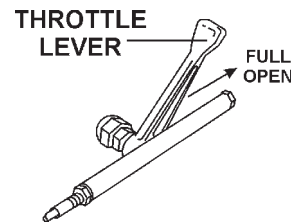

Figure 9. Throttle Lever (Full Open)
5. Grip the recoil starter (Figure 9) handle and pull it until you feel a slight resistance. Then pull sharply and quickly. Return the recoil starter handle to the starter case before releasing.
1. To start the rammer tamping action, move the throttle lever (Figure 9) **quickly** from **IDLE** (close) to the **FULL OPEN** position. **DO NOT** move the throttle lever slowly as this may cause damage to the clutch or spring.